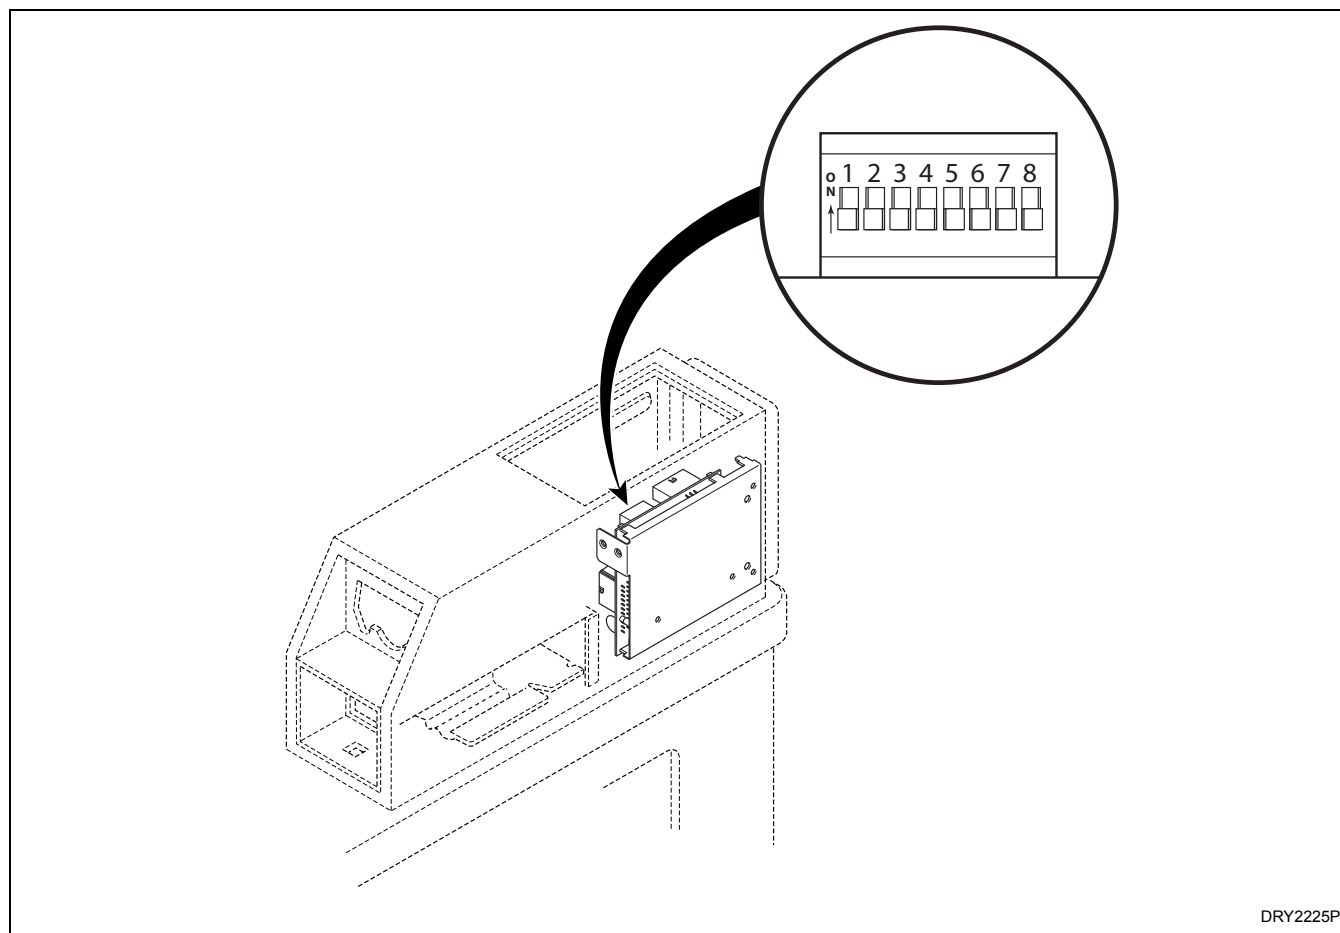

Figure 34
2. Record the machine control dipswitch settings. Then set them all to the off position. Refer to *Figure 34*.